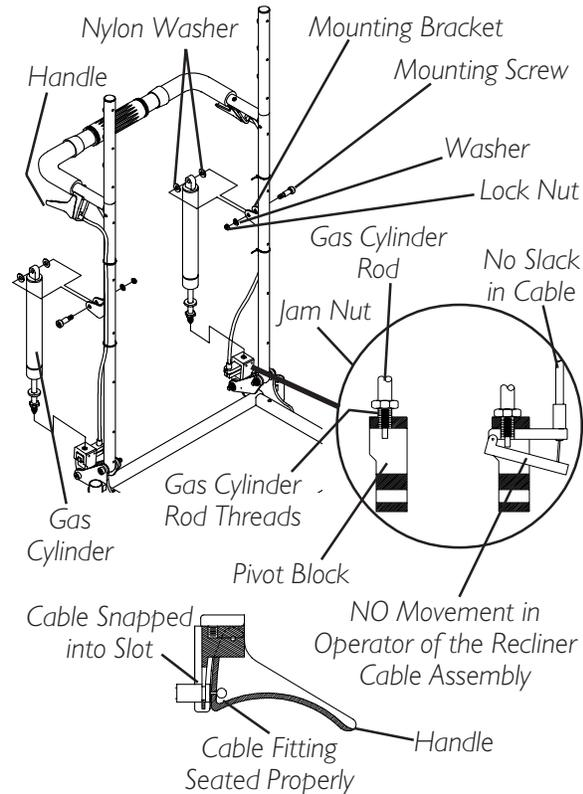

FIGURE 4 - REPLACING/ADJUSTING GAS CYLINDERS
REPLACING/ADJUSTING GAS CYLINDERS (FIGURE 4)**WARNING**
4. Screw cylinder rod of the NEW gas cylinder into the pivot block until the threads of the cylinder rod are flush with inside of pivot block (FIGURE 4).
- A. Finger tighten the jam nut on the rod of the gas cylinder until it bottoms out on the rod of the cylinder (FIGURE 4).